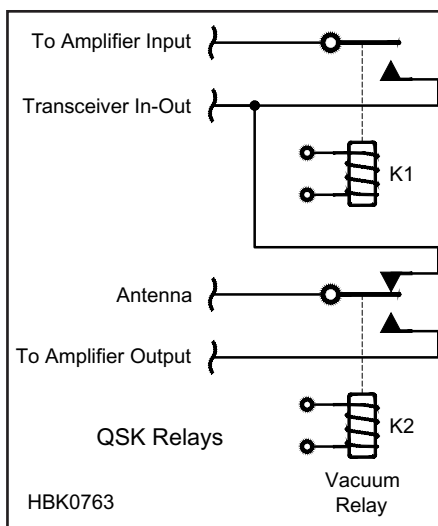

Fig 24.68 — Basic organization of relay switching for QSK.
2. Switch the RF relays from the bypass mode (in which the transceiver is connected directly to the antenna and the amplifier is biased OFF) to the transmit mode (in which the antenna is connected to the amplifier output and the transceiver is connected to the amplifier input). This must happen before RF starts flowing from the transceiver into the amplifier. (We are assuming the use of a modern transceiver for the remainder of this discussion. The same principles apply in switching separate receiver-transmitters.) Fig 24.68 shows the basic relay wiring for a QSK system.
This design uses only a single-throw relay for routing transmitter output to the amplifier input. Using a double-throw relay with another contact for receive adds another opportunity for the contacts to become intermittent in the receive path. Henry Radio used the approach of Fig 24.68 for all of their later production runs of amplifiers. Relay contact materials